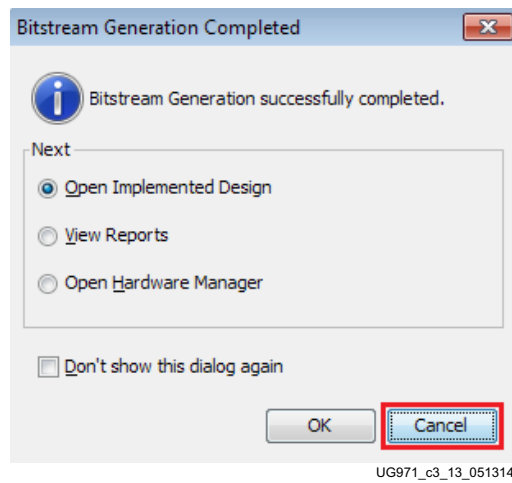

Figure 3-13: **Bitstream Generation Completed**
12. When the Bitstream Generation Completed dialog window appears, click **Cancel** (Figure 3-13).